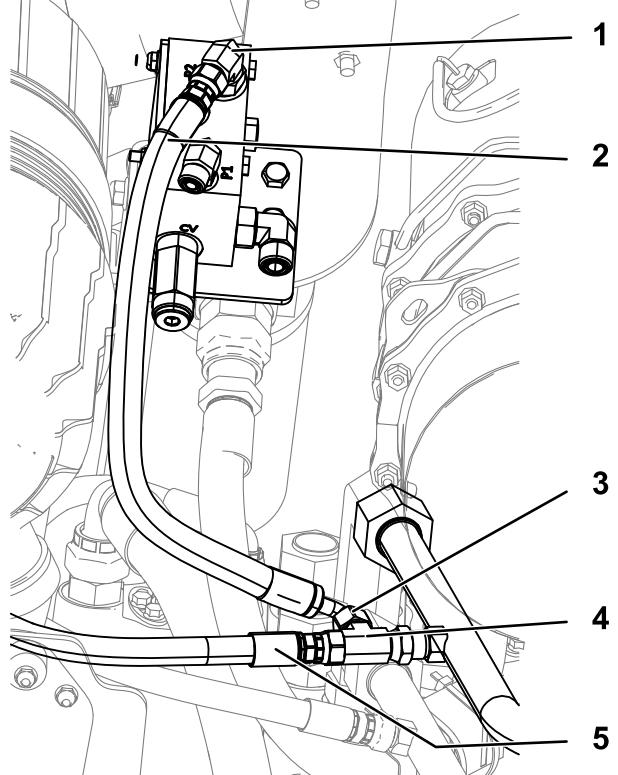

Figure 8
4. Torque the fittings (Figure 8):